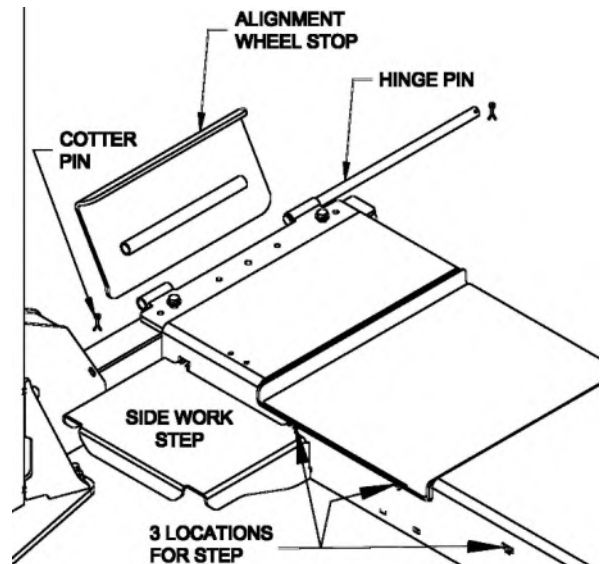

Fig 42 – Alignment Wheel Stop & Work Step Installation
- 96) Attach a Work Step to each runway. (The Work Step may be located in three different positions on each runway.) See **Fig 42**.
- 97) Use the hinge pin and cotter pins to install the alignment wheel stop. See **Fig 42**.